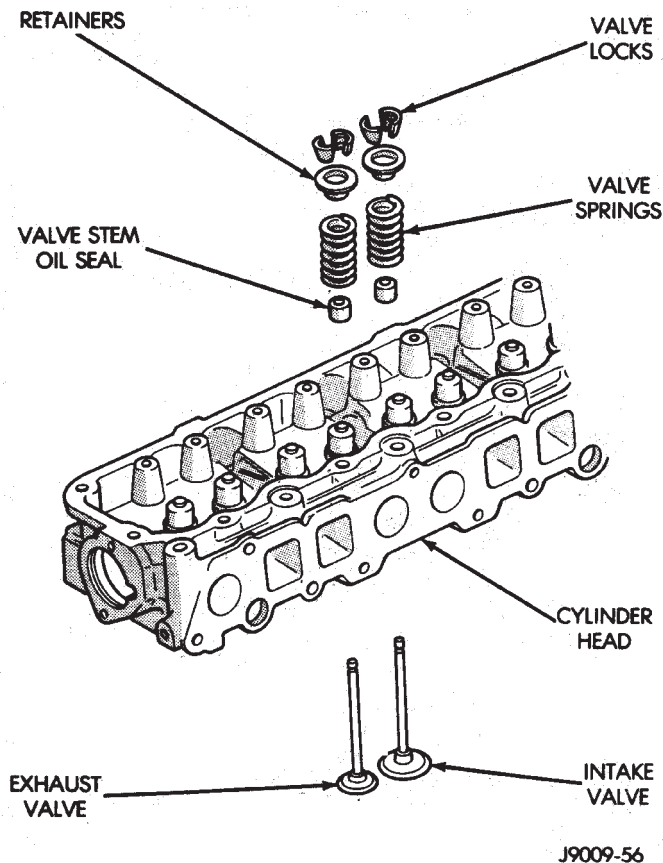

Fig. 24 Valve Components
(1) Thoroughly clean the valve stems and the valve guide bores.
(2) Lightly lubricate the stem.
(3) Install the valve in the original valve guide bore (Fig. 24).
(4) Install the replacement valve stem oil seals on the valve stem (Fig. 24). If the 0.381 mm (0.015 inch) oversize valve stems are used, oversize oil seals are required.
(5) Position the valve spring and retainer on the engine cylinder head and compress the valve spring with Valve Spring Compressor C-3422-B (J-8062 or 8014).
(6) Install the valve locks and release the tool.
(7) Tap the valve spring from side to side with a hammer to ensure that the spring is properly seated at the engine cylinder head. Also tap the top of the retainer to seat the valve locks.
(8) Install the engine cylinder head.